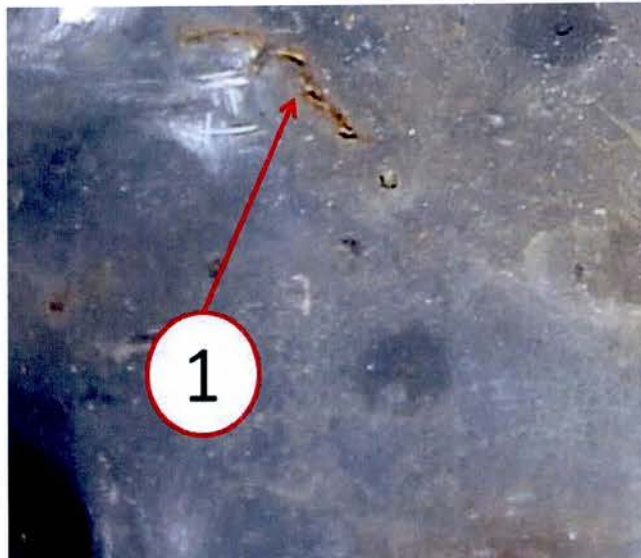

Fig. 1 Engine Cradle
2. Inspect the engine cradle for perforation as shown in (Fig. 1). Was there any perforation found?